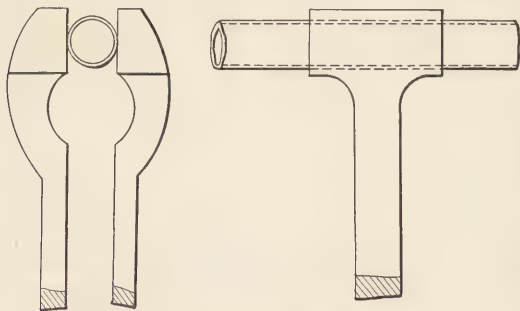

Fig. 6. Pipe Bending.
**Bending Gas Pipe** for experimental purposes is an operation that troubles many blacksmiths. To do this without flattening the pipe at the bend, heat the pipe to a low red and put in the vise as in Fig. 6. Tighten